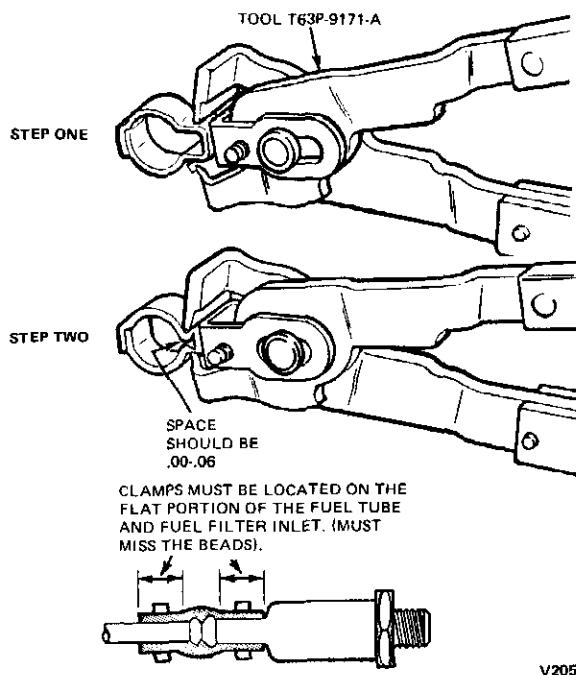

FIG. 1 Installing Crimp-Type Clamps
2. Position the fuel line hose clamps and tighten the clamps securely (Fig. 1).